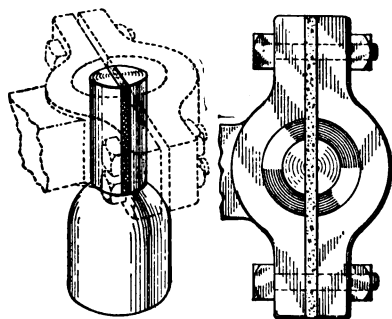

Fig. 61. Wooden Core for Babbitting Connecting-Rod Bearings
**Adjustment of Connecting-Rod Bearings.** *Babbitting Bearings.* As has been stated, the majority of connecting-rod and crankshaft bearings are bronze shells or backs, lined or faced with babbitt as a wearing metal. The bronze provides the stiffness and long life, the babbitt, the softer wearing face which is easily and cheaply replaced. In this replacement, a form or jig to simulate the crankpin and approximate its size must be used for a center. A form made of wood is shown in Fig. 61. This is simply a round member of hard wood, turned up slightly smaller than the actual crankpin at the upper end, while the lower end is left large to form an under surface for the metal. Next, the upper part is split or rather has a cut taken across it, equal in thickness to the shim to be used when the bearing is